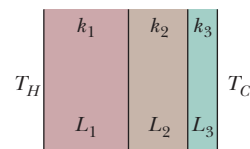

Figure 18-46 Problem 60.
•60 **GO** Figure 18-46 shows the cross section of a wall made of three layers. The layer thicknesses are  $L_1$ ,  $L_2 = 0.700L_1$ , and  $L_3 = 0.350L_1$ . The thermal conductivities are  $k_1$ ,  $k_2 = 0.900k_1$ , and  $k_3 = 0.800k_1$ . The temperatures at the left side and right side of the wall are  $T_H = 30.0^\circ\text{C}$  and  $T_C = -15.0^\circ\text{C}$ , respectively. Thermal conduction is steady. (a) What is the temperature difference  $\Delta T_2$  across layer 2 (between the left and right sides of the layer)? If  $k_2$  were, instead, equal to  $1.1k_1$ , (b) would the rate at which energy is conducted through the wall be greater than, less than, or the same as previously, and (c) what would be the value of  $\Delta T_2$ ?